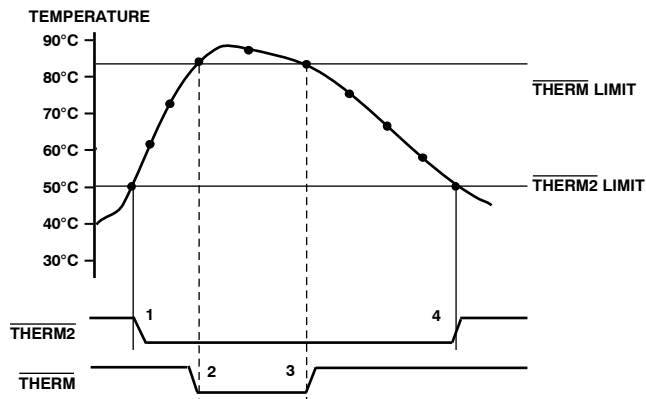

Figure 22. Operation of the  $\overline{\text{THERM}}$  and  $\overline{\text{THERM2}}$  Interrupts
Figure 22 shows how THERM and THERM2 might operate together to implement two methods of cooling the system. In this example, the THERM2 limits are set lower than the THERM limits. The THERM2 output could be used to turn on a fan. If the temperature continues to rise and exceeds the THERM limits, the THERM output could provide additional cooling by throttling the CPU.
3. The  $\overline{\text{THERM}}$  output de-asserts (goes high) when the temperature falls to THERM limit minus hysteresis. In Figure 22, there is no hysteresis value shown.